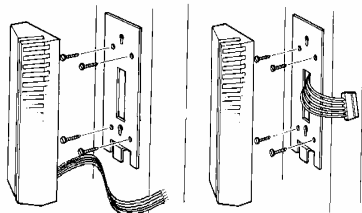

Figure 2.
- The adapter plate is generally used in wall mounting but can be omitted if space is limited. See FIG 2.